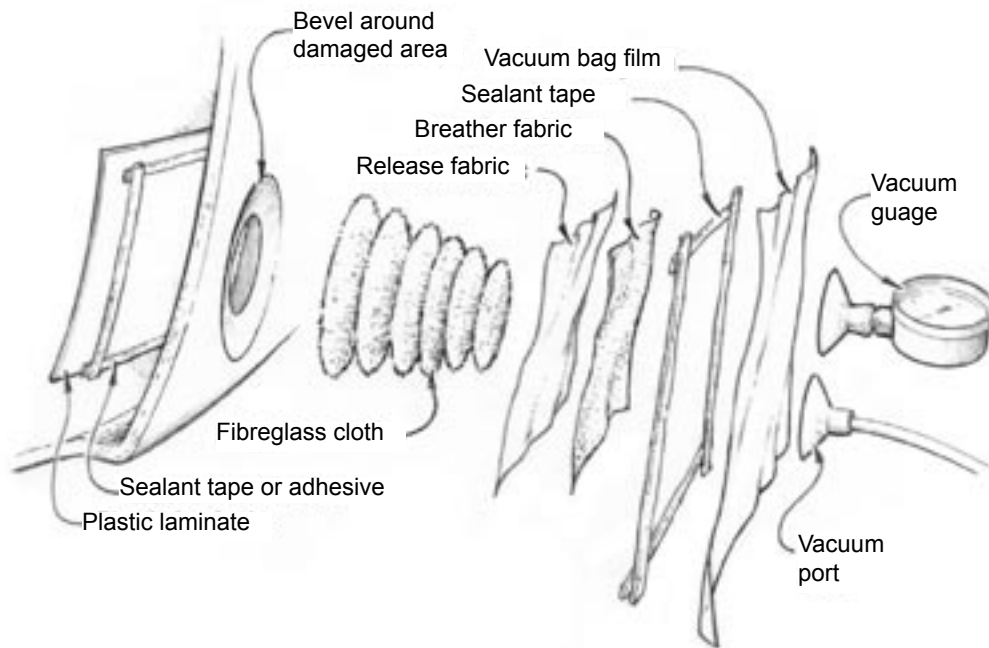

Figure 4-9 Smooth the patch and the release fabric in place. Lay the vacuum bag material over the patch, seal the bag and attach vacuum lines.
3. After smoothing the patch and with the peel ply in place, lay the vacuum bag material over the patch (*Figure 4-9*). With the breather fabric in place, remove the protective paper from the vacuum bag sealant and press the bag into the sealant around the perimeter. The lay-up must be airtight - seal off scored or porous core material with epoxy.